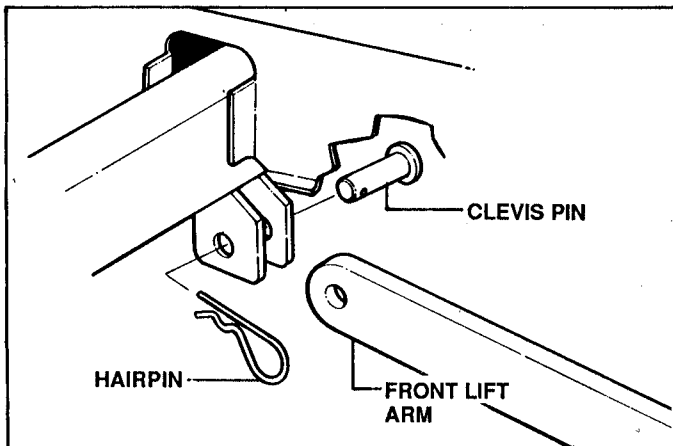

FIGURE 28
- Remove hairpins and clevis pins from FRONT LIFT ARMS. See Figure 28.